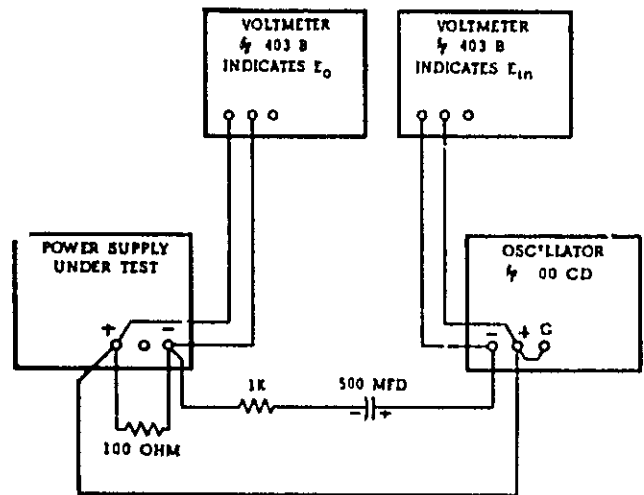

Figure 5-9. Output impedance, Test Setup
- Connect test setups as shown in Figure 5-9.